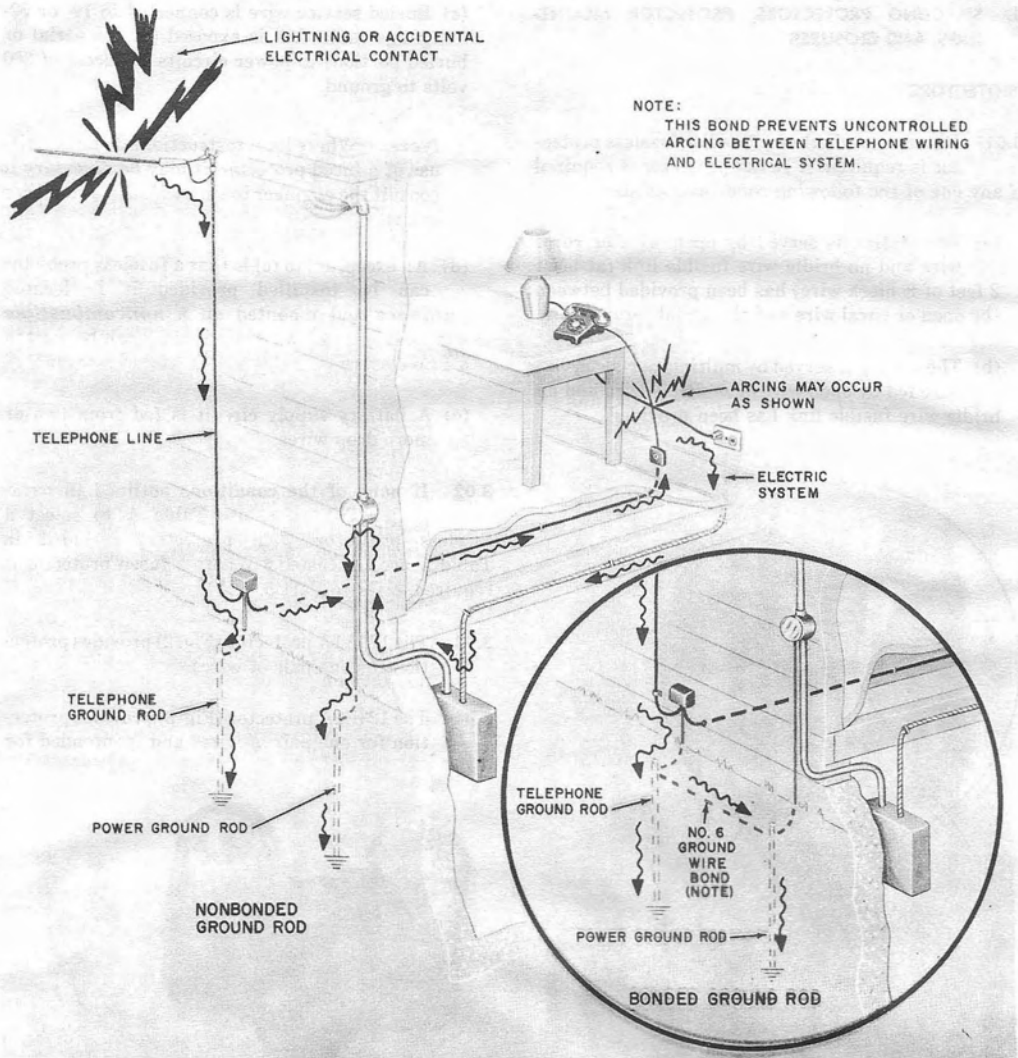

Fig. 1—How Bonding Reduces Differences of Potential Between Telephone Wiring and Electrical Systems That Are Grounded to Separate Electrodes
1.09 Nearby lightning strokes can develop large potential (voltage) differences between telephone wiring, power wiring, water pipes, and building steel. It is important that the customer or owner of the premises ensures that the power is properly grounded, and the metallic water pipes and building steel are bonded to the power ground. The station protector ground should be connected to the power ground. Situations resulting in separate power and telephone grounds require that the separate grounds be bonded using a No. 6 AWG copper conductor. A situation such as this might occur when the power ground is inaccessible at the premises. The technician grounds the station protector to a telephone ground rod and bonds the ground rod to the water pipe. When the customer provides access to the power ground, the telephone company will return to bond the power and telephone grounds. This situation is shown in Fig. 1 and covered in Part 6. Telephone grounding and bonding conductors should be as short and straight as possible.